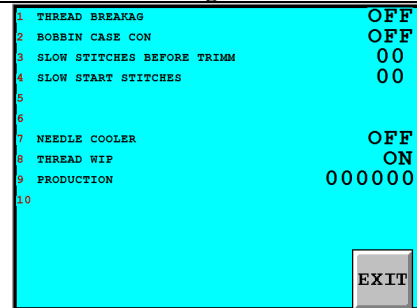

Fig.13
14.1.3 Press the button “PARAMETERS” , the screen as fig. 13 will appear.
14.1.7 Press “ENTER”. Get back to the previous screen (Fig.13).